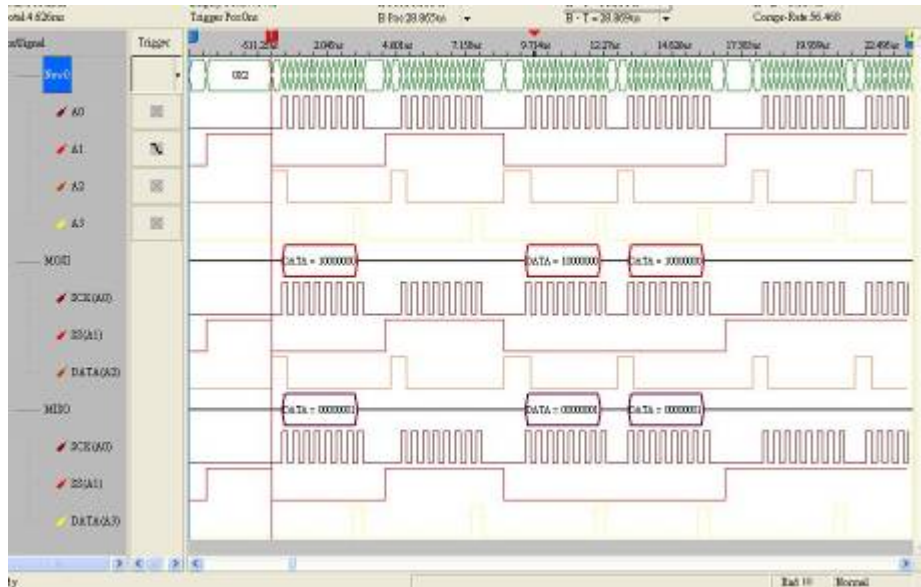

Fig 4-87 – SPI Signal
- (5) Click on the “Don't care data bit” function. The system will restart and count from the beginning of the data bits when the condition of the idling time setting is qualified.
- (6) Click off the "Don't care data bit" function, the system will decode the data stream until the bits of the data are received completely, when the condition of the idling time setting is qualified.
- (7) Press "OK" to confirm the setup of SPI Custom Setting and return to the dialog box of the SPI Setting. (**Tip:** Press "Default" to reset the current setup)
Step6. Click **Run** to acquire the SPI signal from the tested SPI circuit. Refer to the Fig 4-87.